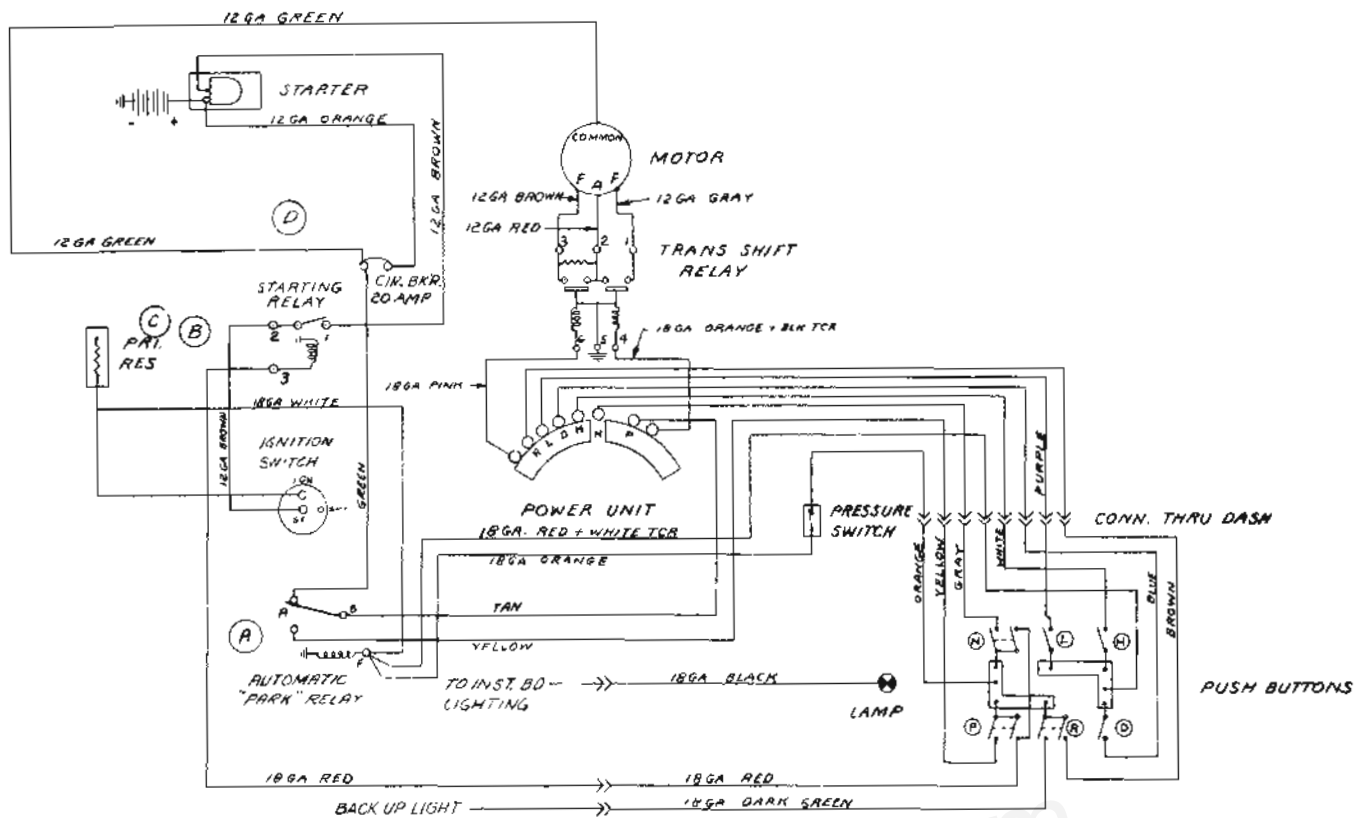

Fig. 3 WIRING DIAGRAM OF PUSH BUTTON SYSTEM
determine to which circuit the trouble is confined and trace the circuit or circuits involved to find and correct the trouble. Fig. 3 illustrates a schematic wiring diagram of the system.
**Overtravel** -- If an overtravel of the segment has occurred, first, be sure the cause has been corrected. Then, if damage has been caused to the fingers make the required repairs or replacement to place them in operating condition and alignment. Note -- If the contact segment does not have the chamfered corners, file or stone off the corners as outlined in Service Bulletin No. 322, Fig. 3.